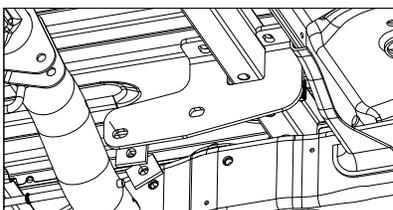
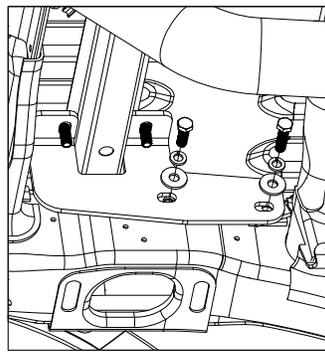

FIGURE B2: View looking up at passenger side frame.
FIGURE B3: View looking up at driver side frame.
3. **Install the front brackets.** Locate the two front brackets, four round hole rectangle washers, two M12 x 45 mm hex head bolts (longer), two M12 x 35mm hex head bolts (shorter), four 1/2" split lock washers, and four 1/2" flat washers. Due to curvature of the frame the forward hole in each front bracket will need to be supported with two round hole rectangle washers. See Figure B2. Using a 1/2" lock washer and 1/2" flat washer, Thread the longer (45mm) M12 hex head bolt into the frame through the forward holes in the brackets and through both round hole rectangle washers. Again, Using a 1/2" lock washer and 1/2" flat washer, Thread the shorter (35mm) M12 hex head bolt into the frame through the remaining holes. See Figures B3 and B4. Do not fully tighten at this time.